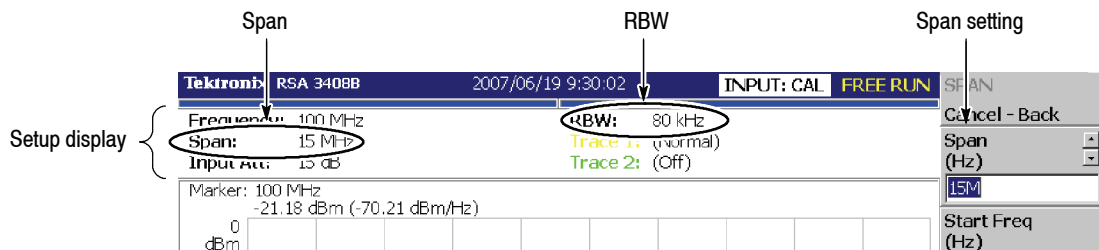

Figure 3-2: Setup display
- b. Confirm that the span is 36 MHz and the RBW is 100 kHz in the setup display on the upper part of the screen (see Figure 3-2).